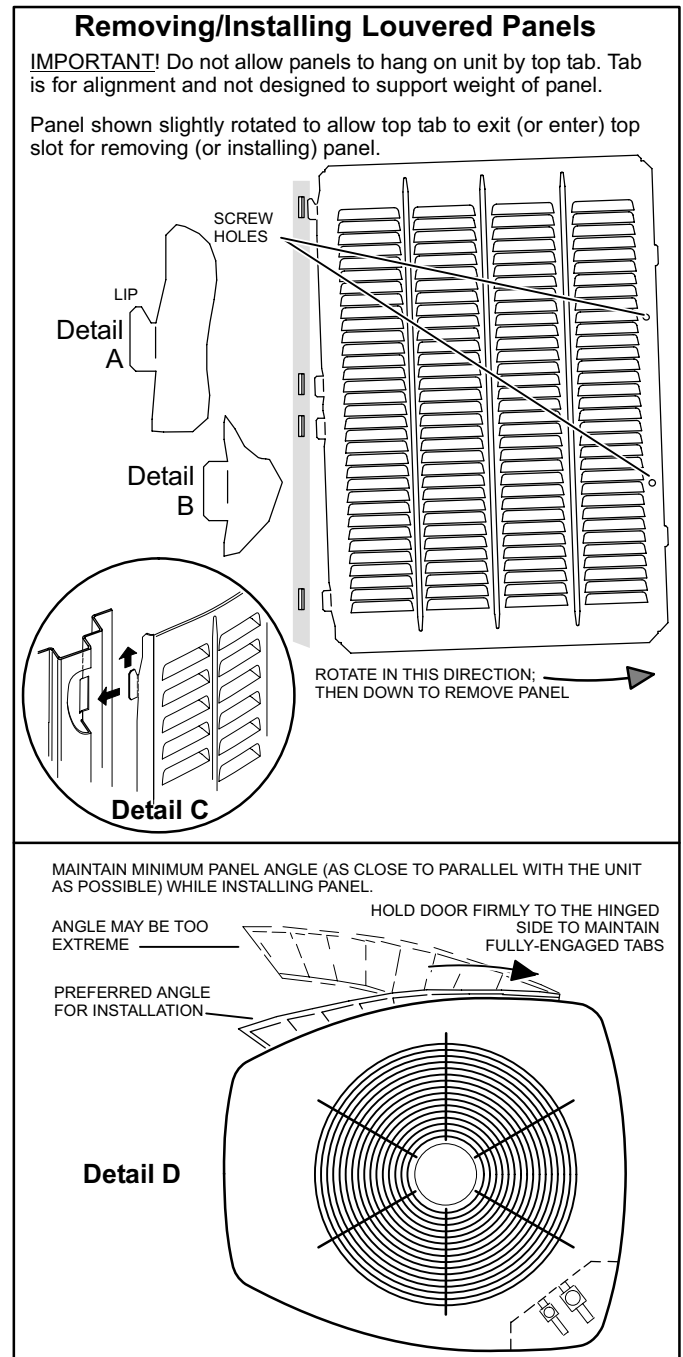

FIGURE 2
1. Remove 2 screws, allowing the panel to swing open slightly (see figure 2).
2. Hold the panel firmly throughout this procedure. Rotate bottom corner of panel away from hinge corner post until lower 3 tabs clear the slots (see figure 2, Detail B).
3. Move panel down until lip of upper tab clears the top slot in corner post (see figure 2, Detail A).
Position and Install Panel—Position the panel almost parallel with the unit (figure 2, Detail D) with the “screw side” as close to the unit as possible. Then, in a continuous motion: Slightly rotate and guide the lip of top tab inward (figure 2, Details A and C); then upward into the top slot of the hinge corner post.